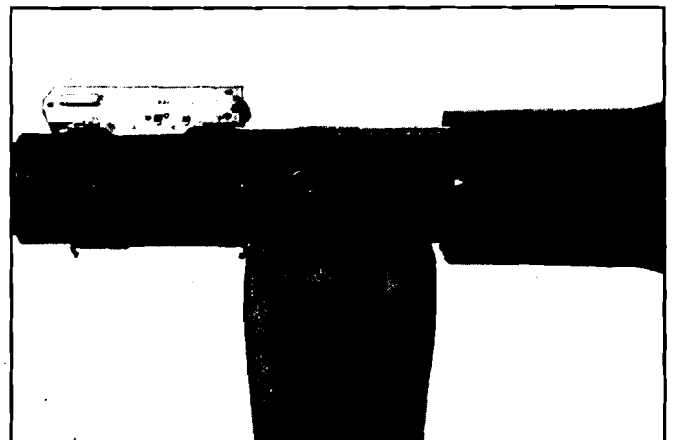

Fig. 9-16 Mounting Column In Vise By Welded Tapping Nuts
2. Mount column in vise by clamping two welded tapping nuts in vise (Fig. 9-16). On Tempest and Grand Prix columns, disconnect lower shaft with pot joint or universal joint from steering column shaft by removing clamping bolt (Fig. 9-13) if pot joint or universal joint is to be serviced.
2. Mount column in vise by clamping two welded tapping nuts in vise (Fig. 9-16).